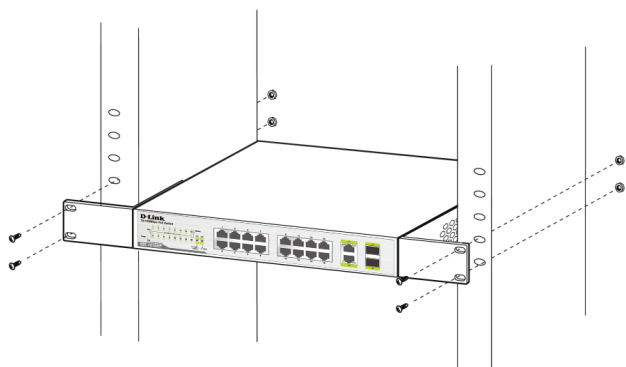

Figure 4. Mount into the Rack
2. Use the screws provided with the equipment rack to mount the device in the rack as shown in **Figure 4**.